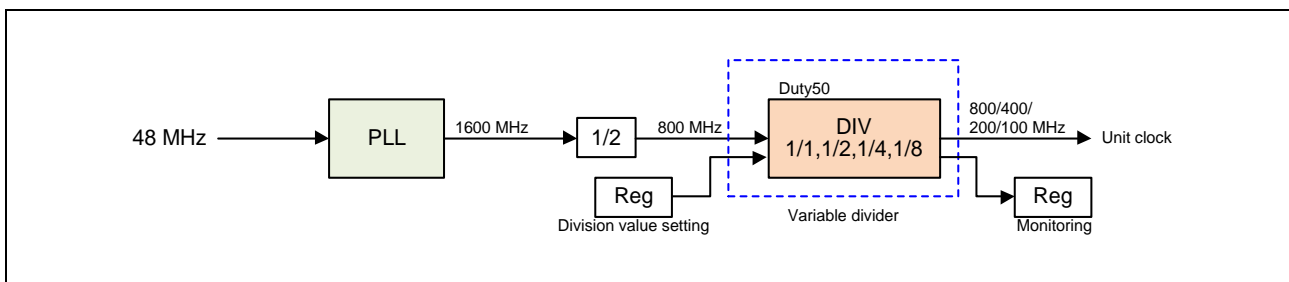
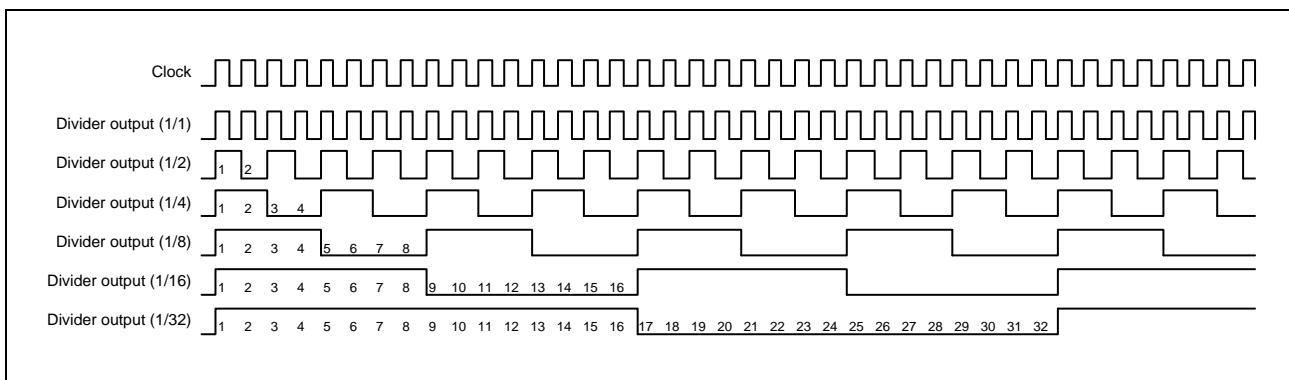
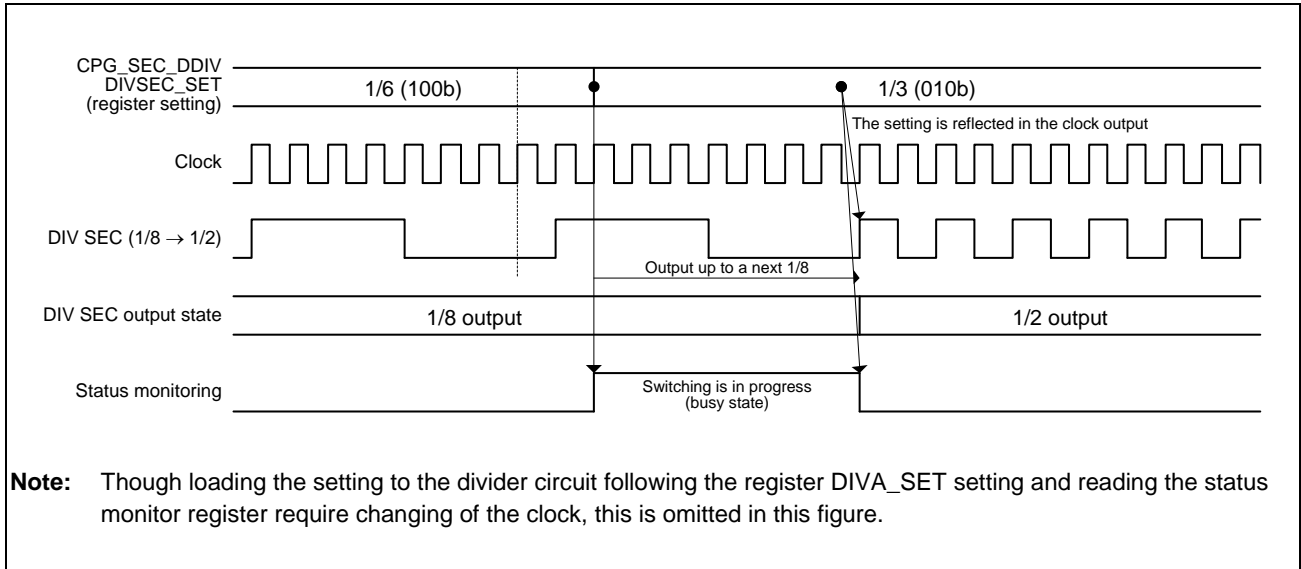

Figure 34.6-10 Schematic View of the Allocation of the Dynamic Switching Variable Divider (Duty50 Type)
Figure 34.6-11 Timing Chart of the Dynamic Switching Variable Divider (Duty50 Type)
Figure 34.6-12 Timing Chart of Clock Switching of the Dynamic Switching Variable Divider (Duty50 Type)
**Figure 34.6-10** is a schematic view of the allocation of the divider and **Figure 34.6-11** and **Figure 34.6-12** show the timing charts.